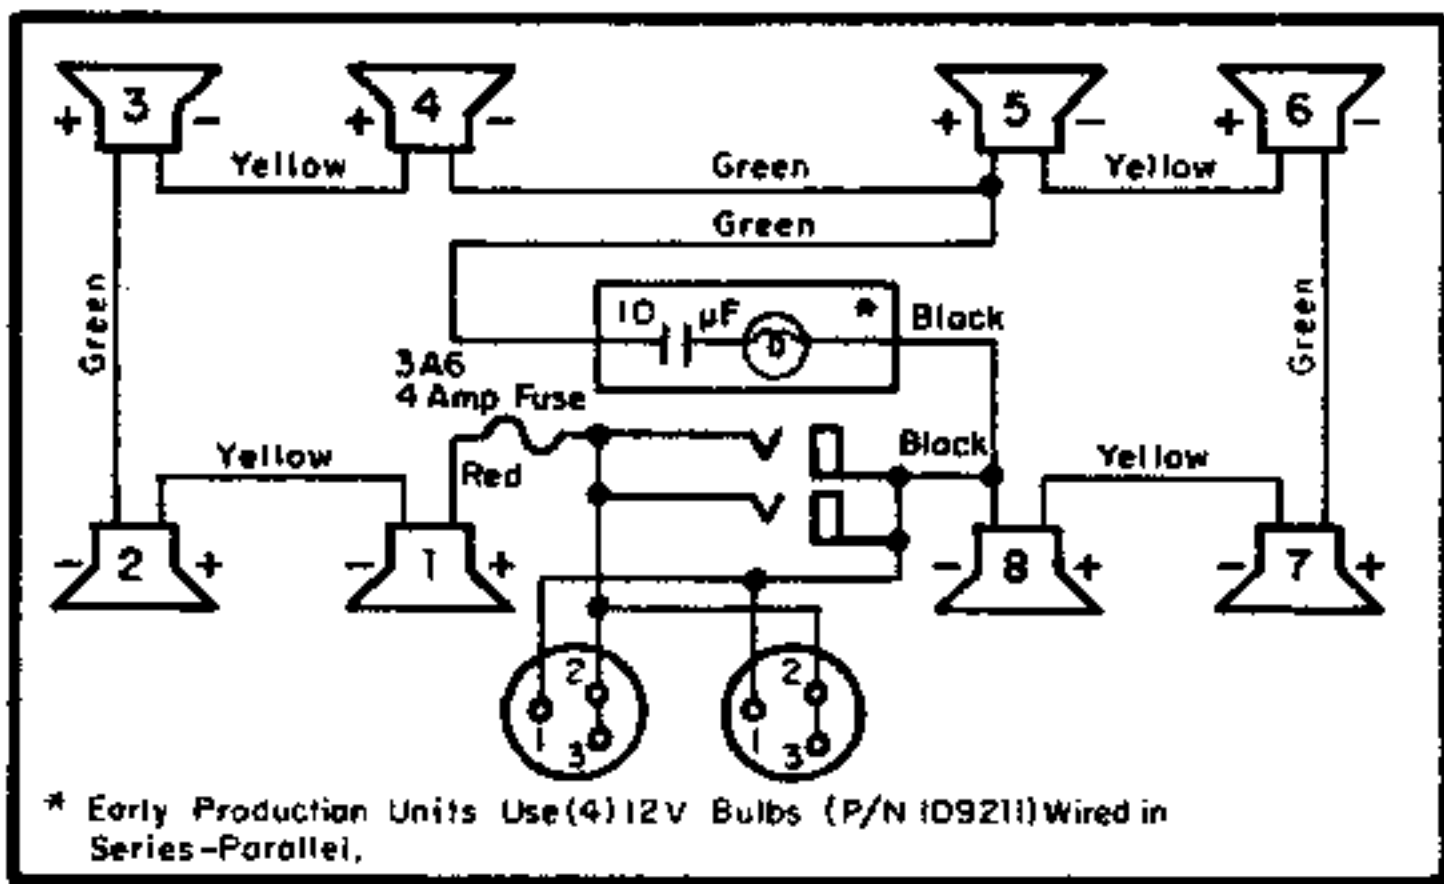

Figure 1 SPEAKER SCHEMATIC
- CONTINUITY CHECK** — An open driver may be detected by using an ohmmeter and checking continuity. Insert a phone jack in the rear of the speaker and check continuity by carefully penetrating the black cement covering the flexible conductor on the surface of each cone with an ohmmeter lead. Check continuity between each driver and the speaker terminals until the open driver is detected. See Figures 1 and 2.
- PHASING CHECK** — Using a 6- to 20-volt battery or DC power supply, check that all speakers are in phase (moving together). Connect the positive portion of the power supply to the "tip" terminal of the phone jack and the ground connection of the power supply to the "sleeve" terminal of the phone jack. This will produce an outward motion of all drivers. See Figure 1.